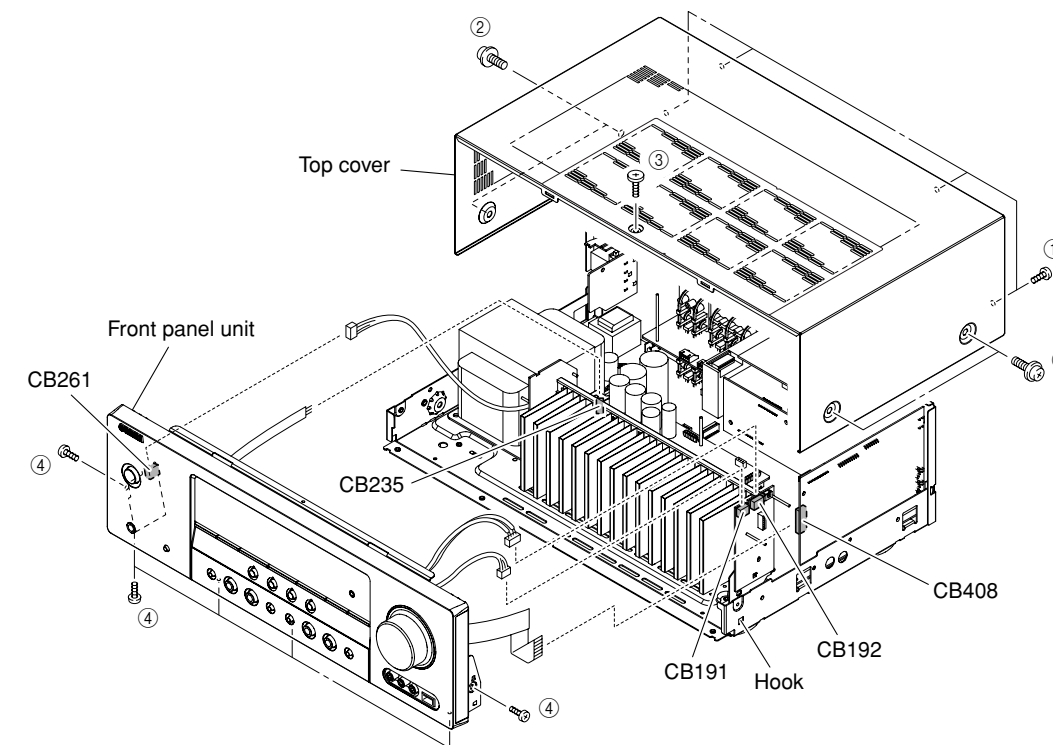

Fig. 1
- a. Remove 4 screws (①), 4 screws (②) and 1 screw (③). (Fig. 1)
- b. Slide the top cover rearward to remove it. (Fig. 1)
- a. Remove 6 screws (④). (Fig. 1)
- b. Remove CB191, CB192, CB235, CB261 and CB408. (Fig. 1)
- c. Remove the front panel unit. (Fig. 1)